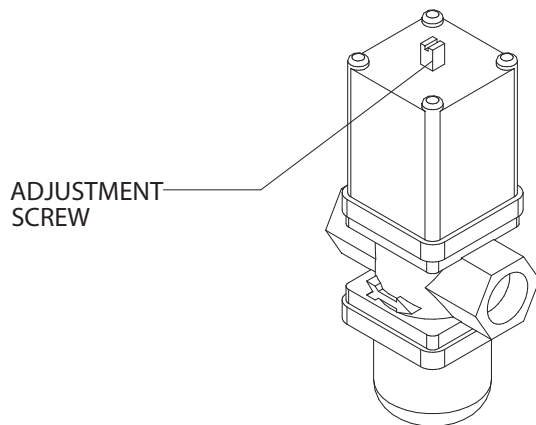

FIGURE 3 - WATER REGULATING VALVE
- Water cooled condensers utilize a water regulating valve (Refer to Figure 3). The water regulating valve comes pre-adjusted from the factory at 260 psig discharge pressure. To compensate for water temperature variation, it may be necessary to adjust the water regulating valve to maintain a 260 psig discharge pressure. Adjustment can be done by rotating the adjusting screw counterclockwise for an increase in discharge pressure. For conditions where low water temperature and/or high water pressure are expected it is advisable to install a water pressure regulator ahead of the condenser.
Install piping, fittings and accessories as required for specific site conditions and requirements. Figure 3 indicates a typical piping arrangement for a refrigerated dryer, including dryer and filter bypasses. This figure can be used as a guide for valve and accessory placement in the system.
Ingersoll Rand dryers come factory installed with a drain isolation valve (D). The isolation valve permits maintenance of the automatic drain without isolating air flow to the dryer. To operate dryer, all valves shown in Figure 3 are to be closed except valves (B), (C) and (D). Valve (A) is used for bypass purposes and valve (E) is for test and manual drain purposes.